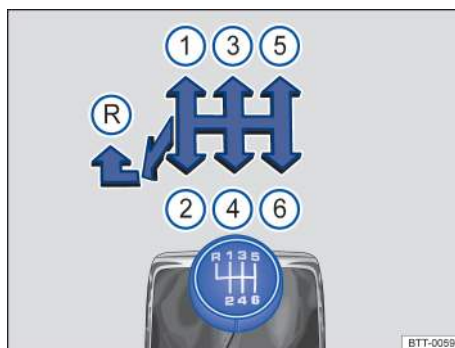

Fig. 100 Gearshift pattern of a 6-speed manual transmission.
The positions of the individual gears are shown on the gearshift lever → fig. 100.
- Move the shift lever to the left and then push forward into the reverse gear position → fig. 100 .